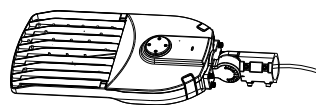

Figure 4
- Step 2: Attach the bracket securely to the fixture. (Figure 4)